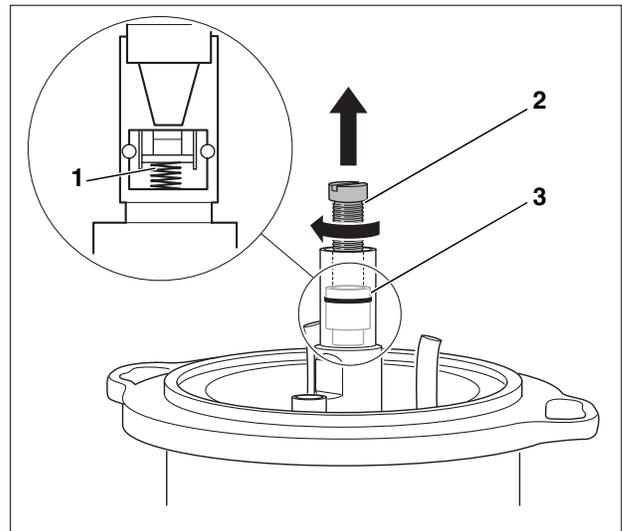

Fig 29 Removal of shut-off valve of oil pre-heater
The shut-off valve in the oil pre-heater (Fig. 29, **Item. 3**) functions as an after-drip preventer. Oil pushes against the shut-off valve during oil pump operation. As soon as the oil pump shuts off, an internal spring closes the shut-off valve (Fig. 29, **Item. 1**).
- Screw a M5x50 screw (Fig. 29, **Item. 2**) in and remove the shut-off valve (Fig. 29, **Item. 3**).